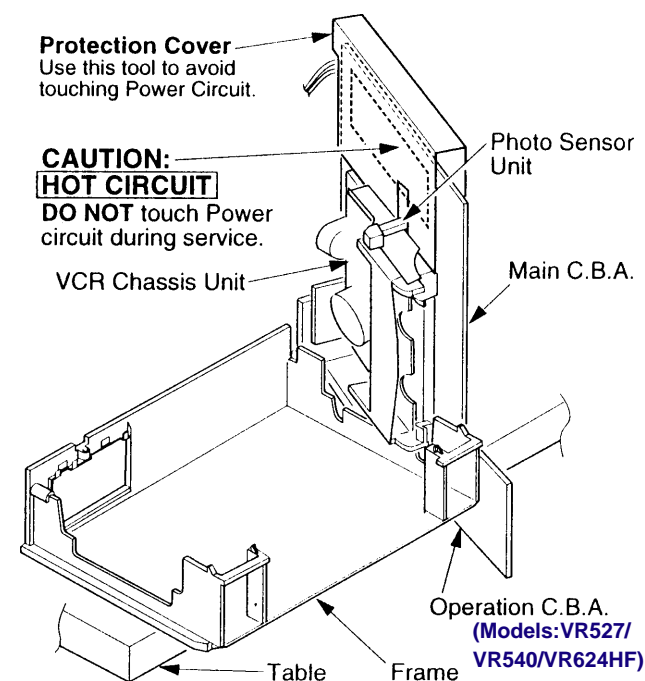

Fig. 3 - Service Position (2)
### Service Position (2) (Fig. 3)
3. Position the VCR chassis unit as shown in Fig. 3 to access the areas requiring service.